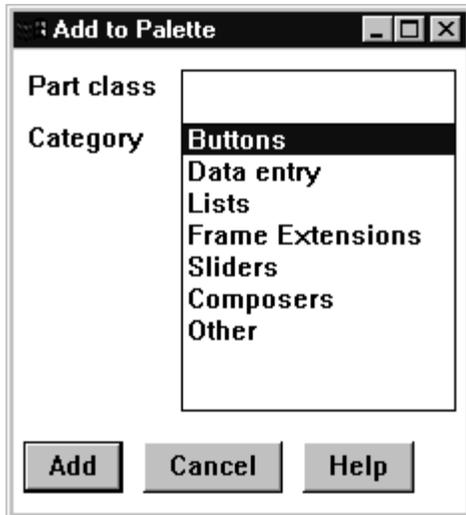

Figure 53. The Add to Palette window
1. In the Composition Editor, select **Modify palette**→**Add new part** from the **Options** pull-down menu. The Add to Palette window is displayed as shown in Figure 53 on page 150.